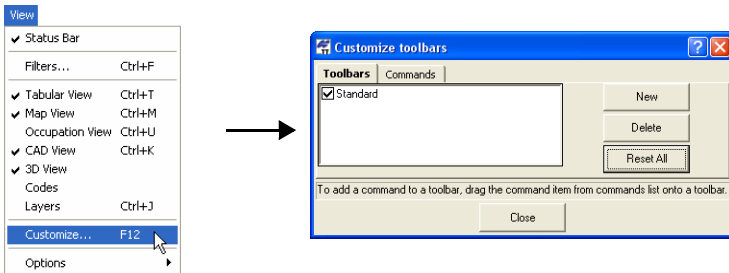

Figure 1-18. Customize Toolbars
1. To customize toolbar options, click **View ► Customize**. The *Toolbars* tab in the *Customize toolbars* dialog box displays all available toolbars for activating or inactivating, and adds or deletes toolbars. (Figure 1-18).